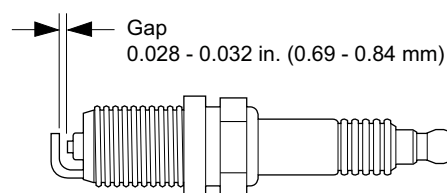

Fig. 10 Spark Plug Gap
2. Clean and gap the spark plugs to 0.028 - 0.032" (0.69 - 0.84mm) (Ref. Fig. 10). If a plug has been burned beyond 0.032" (0.84 mm) or if the porcelain insulator is cracked, both plugs should be replaced.